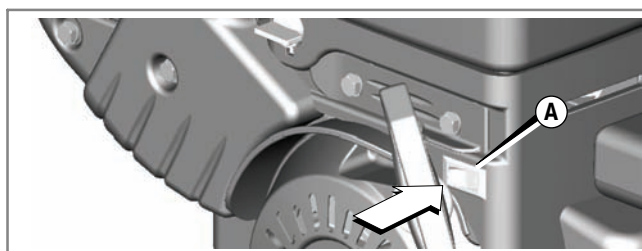

Figure 9
- Move the stop switch (A), if equipped, to the stop position (Figure 9).